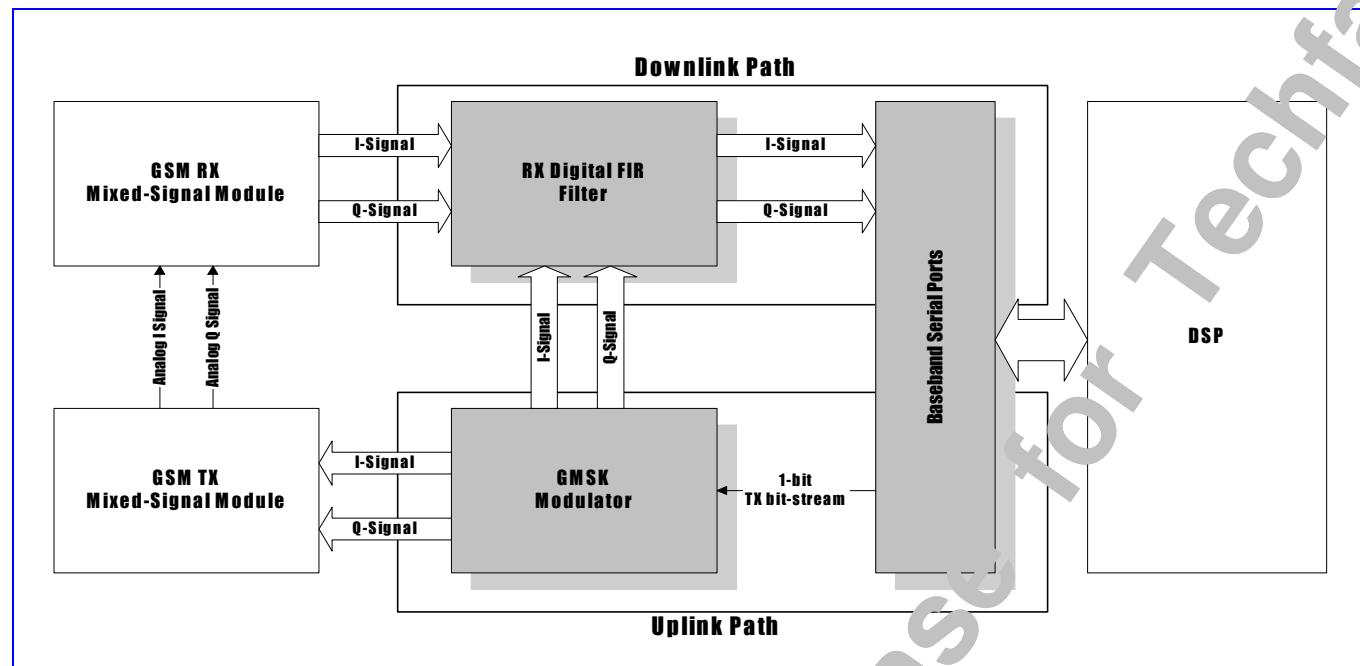

Figure 76 Block Diagram Of Baseband Front End
Baseband Front End is a modem interface between TX/RX mixed-signal modules and digital signal processor (DSP). We can divide this block into two parts (see **Figure 76**). The first is the uplink (transmitting) path, which converts bit-stream from DSP into digital in-phase (I) and quadrature (Q) signals for TX mixed-signal module. The second part is the downlink (receiving) path, which receives digital in-phase (I) and quadrature (Q) signals from RX mixed-signal module, performs FIR filtering and then sends results to DSP. **Figure 76** illustrates interconnection around Baseband Front End. In the figure the shadowed blocks compose the Baseband Front End. The uplink path is mainly composed of GMSK Modulator and uplink parts of Baseband Serial Ports, and the downlink path is mainly composed of RX digital FIR filter and downlink parts of Baseband Serial Ports. Baseband Serial Ports is a serial interface used to communicate with DSP. In addition, there is a set of control registers in Baseband Front End that is intended for control of TX/RX mixed-signal modules, inclusive of calibration of DC offset and gain mismatch of downlink analog-to-digital (A/D) converters as well as uplink digital-to-analog (D/A) converters in TX/RX mixed-signal modules. The timing of bit streaming through Baseband Front End is completely under control of TDMA timer. Usually, only either uplink or downlink paths is active at a time. However, both of the uplink and downlink paths will be active simultaneously when Baseband Front End is in loopback mode.